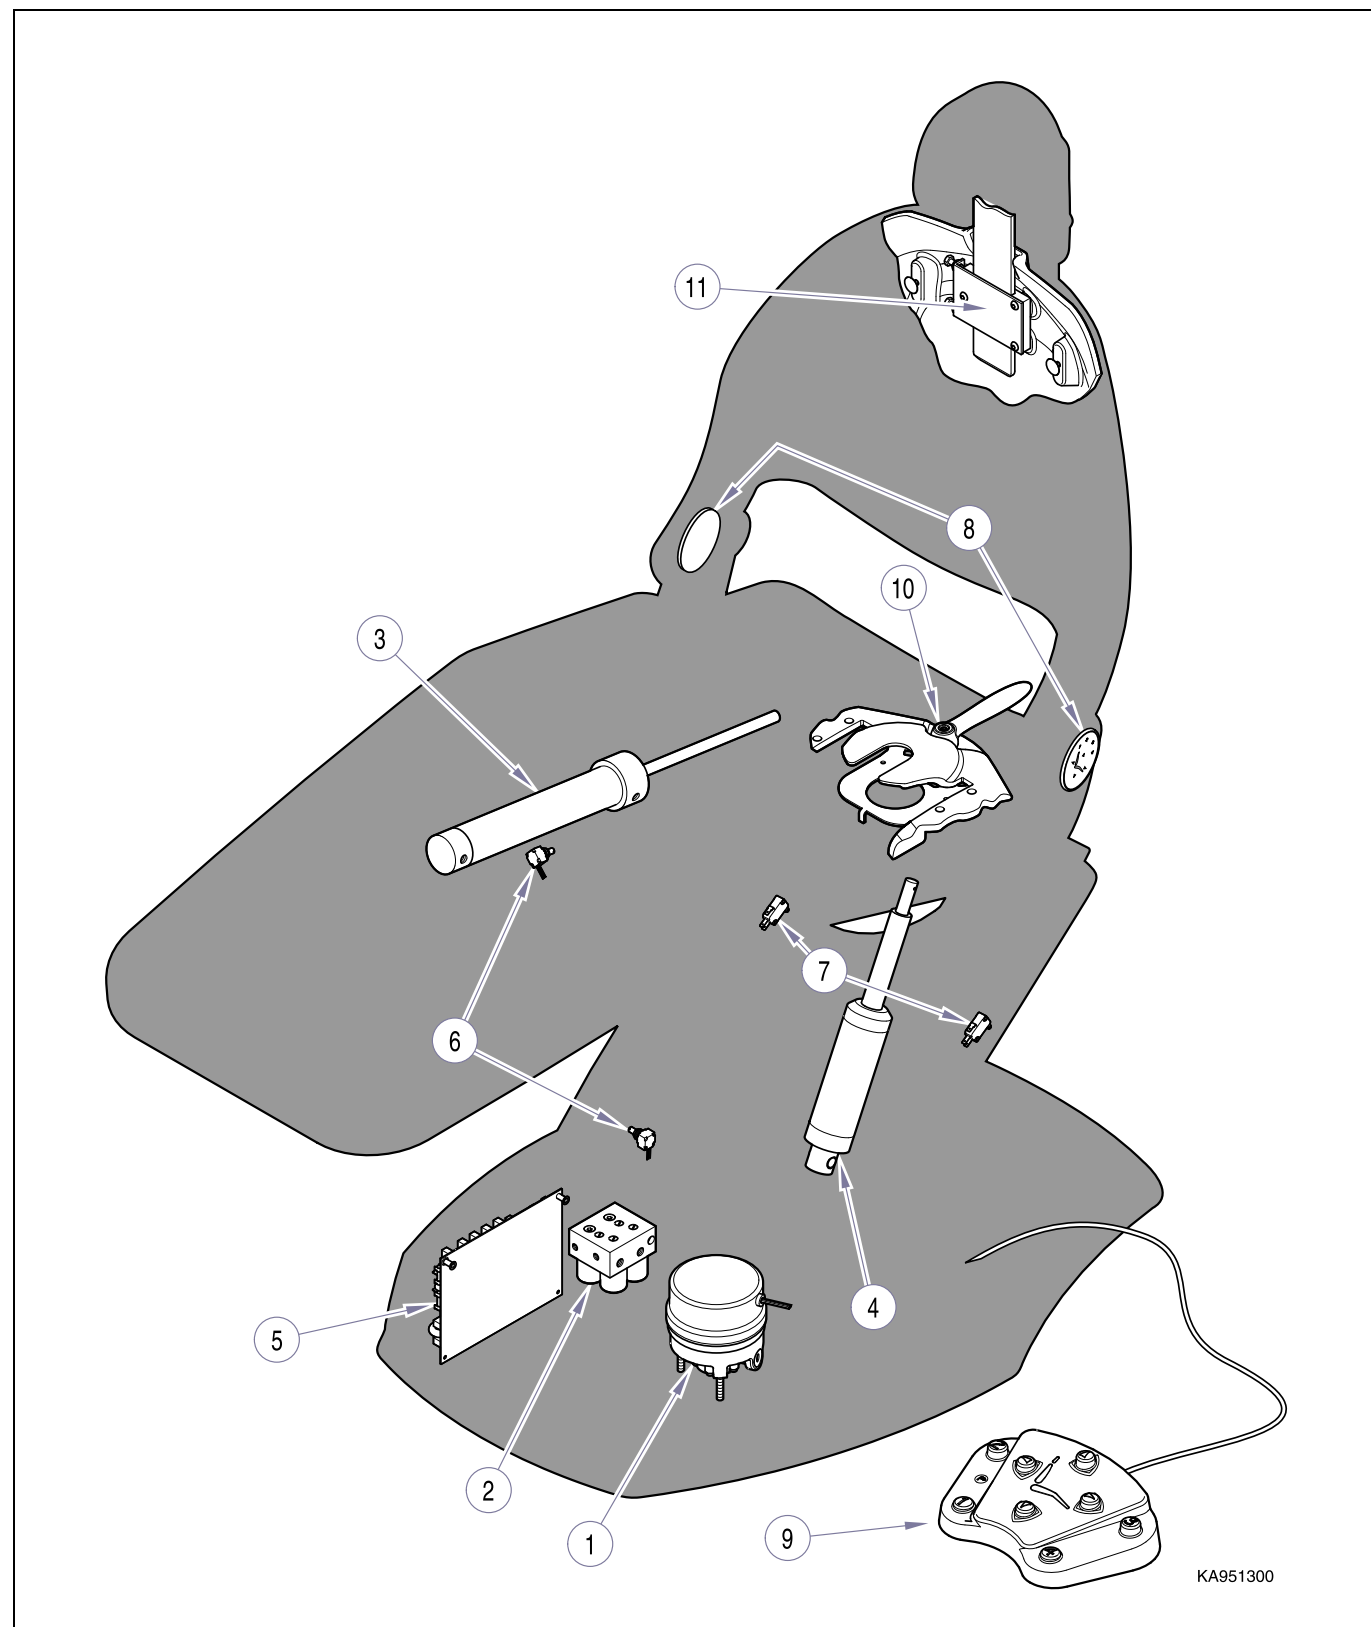

Figure 1-1. Component Location
A. General Description (See Figure 1-1).
B. Major Serviceable Components (See Figure 1-1).
Hydraulic Motor Pump (1, Figure 1-1)
Solenoid Valve Unit (2, Figure 1-1)
Back Hydraulic Cylinder (3, Figure 1-1)
Base Hydraulic Cylinder (4, Figure 1-1)
P.C. Board w/ Fuses (5, Figure 1-1)
Back and Base Positioning Potentiometers (6, Figure 1-1)
Safety Bail Limit Switches (7, Figure 1-1)
Membrane Touch Pads (8, Figure 1-1)
Foot Switch (9, Figure 1-1)
Rotational Seat Lock (10, Figure 1-1)
Headrest Locking Assembly (11, Figure 1-1)